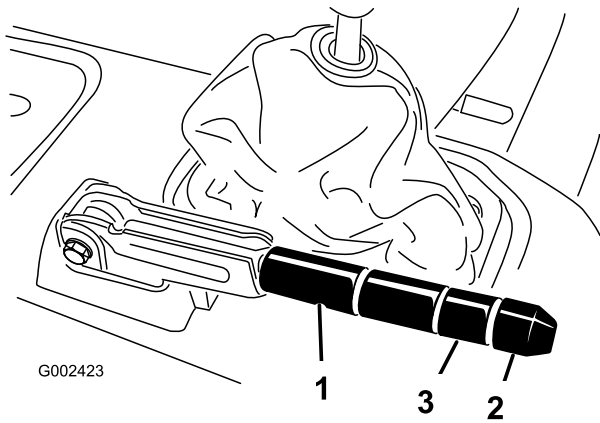

Figure 75
2. Loosen set screw securing knob to parking brake lever (Figure 75).